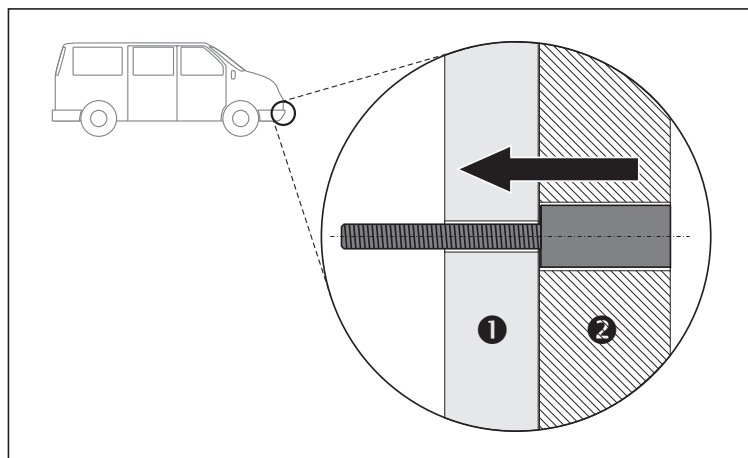

Fig. 4: Fitting direction of spacer bolts 1 metal crossbeam, 2 skirting
3. Insert the spacer bolts into the holes from the outside (fig. 4).